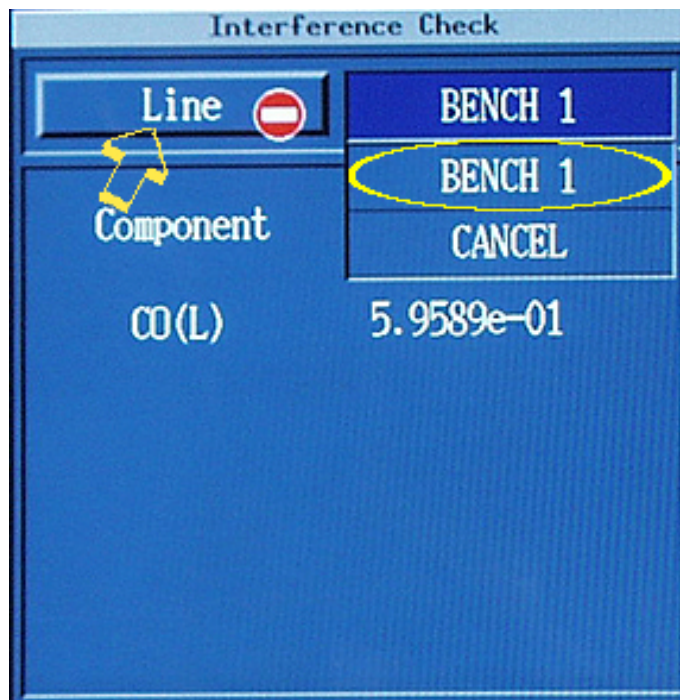

Figure 5
- 107 The “Interference Check” sub-panel will appear. If the bench to be used for testing is not selected on the sub-panel, click on the “Line” button. See arrow in Figure 5. From the menu items that appear, click on the appropriate analyzer bench. See circle in Figure 5.